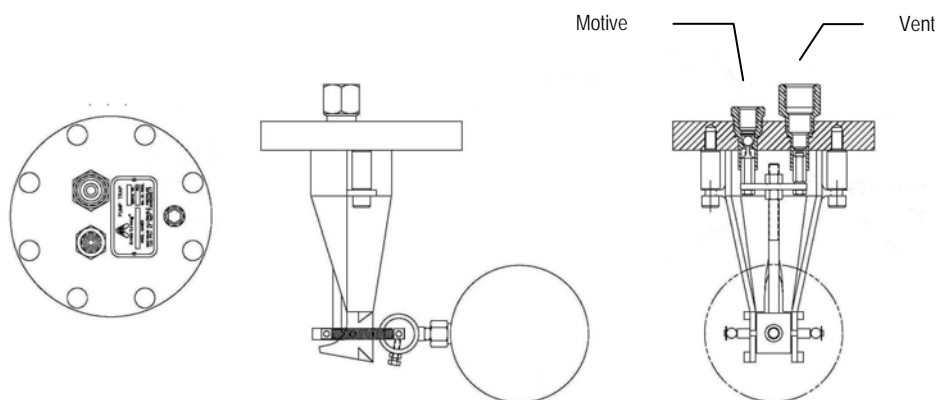

Fig.2 : EPT-200 Series Cap Assembly
3. Inspect the mechanism for freedom of movement. Remove any dirt or scale inhibiting the motion of the mechanism (see figure 2 on page 2).